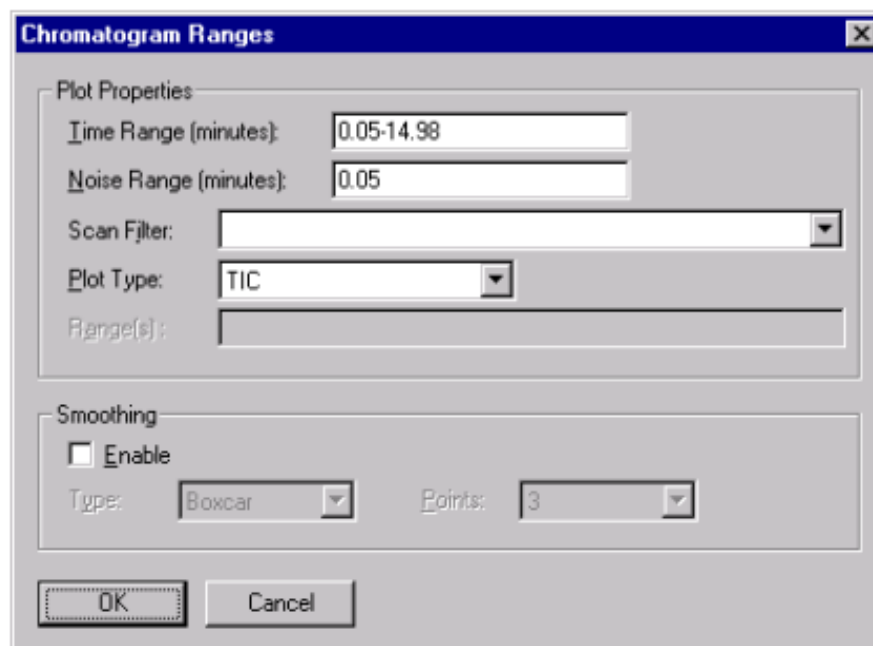

Figure 3-1. Chromatogram Ranges dialog box
3. Normally, signal-to-noise calculations are performed on mass chromatograms. In order to specify a mass chromatogram, select the **Chromatogram | Ranges** menu item. The Chromatogram Ranges dialog box will appear, as shown in Figure 3-1.